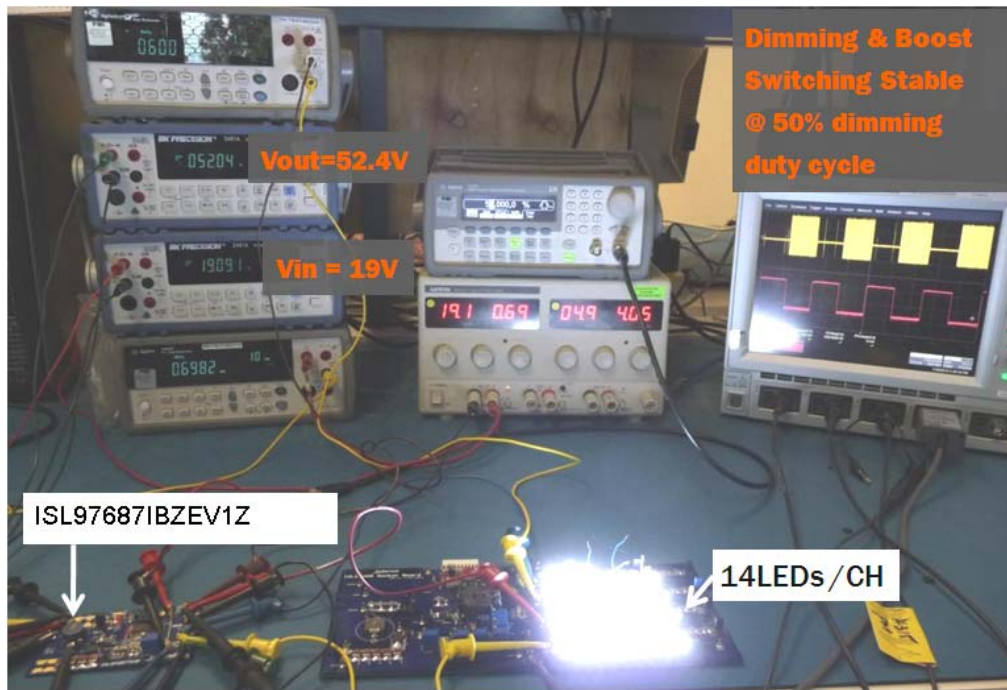
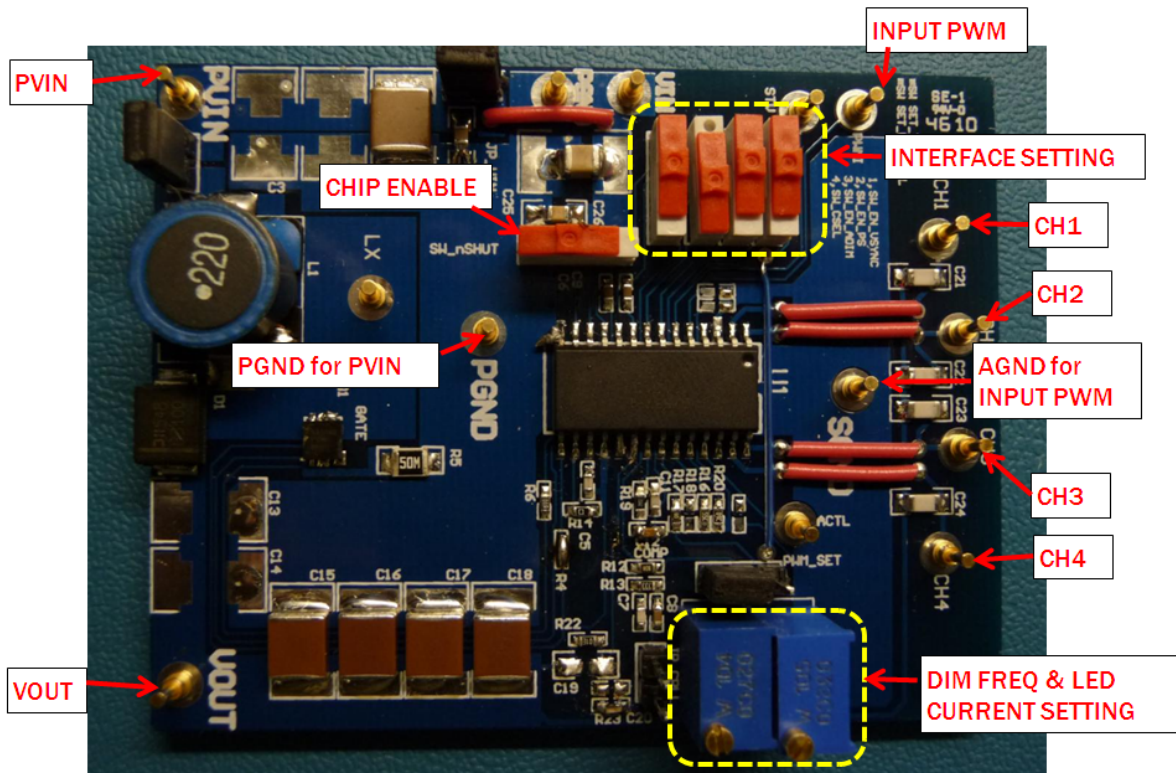

FIGURE 1. PHOTO OF ISL97687IBZEV1Z DRIVING SETUP
FIGURE 2. PHOTO OF ISL97687IBZEV1Z DESIGNED FOR 1-LAYER PCB
The ISL97687IBZEV1Z is a PWM controlled LED driver that supports 4 channels of LED current, for Monitor and TV LCD backlight applications. It is capable of driving 160mA per channel from a 9V to 32V input supply, with current sources rated up to 75V absolute maximum. Figure 1 shows a photo of a 14 LED/Channel with a 120mA/Channel. The ISL97687IBZEV1Z in Figure 2 is designed for a one layer PCB with SOIC package.
1. The ISL97687 provides many different PWM dimming methods; the interface modes and its settings are summarized in Table 2. Those interfaces can be selected with switches and jumper settings of the ISL97687IBZEV1Z evaluation board in Figures 2 and 4.